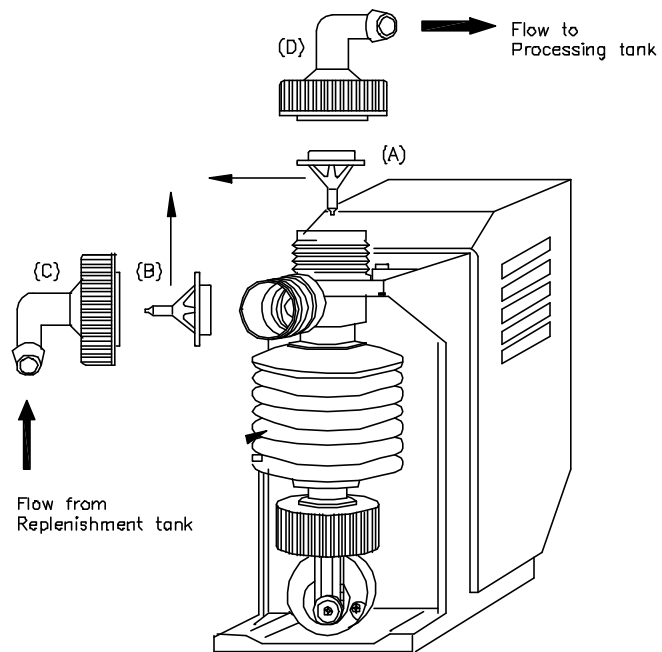

Figure 5-2. Replenishment Pump Valves
Remove inlet and outlet connectors, as shown in Figure 5-2 to remove the valves.
The segregation view of replenisher pump (see Fig. 5-2) (A)(B) are valves which are located in different directions at the exit of water-out and the entrance of water-in, never place them in the wrong way, otherwise, the solutions will fail to be replenished. Also, the valve itself shall not be clogged by any tiny foreign material to prevent the solutions from flowing in reverse, that is, the solutions flow in reverse flow to replenishment tank from the pump.